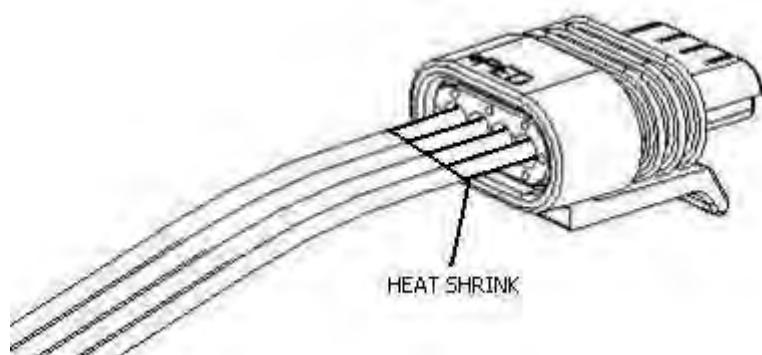

Figure 67
o. If the cable seal pulls out of the connector body during terminal seating, carefully push the seal back into the connector assembly as shown in Figure 67.